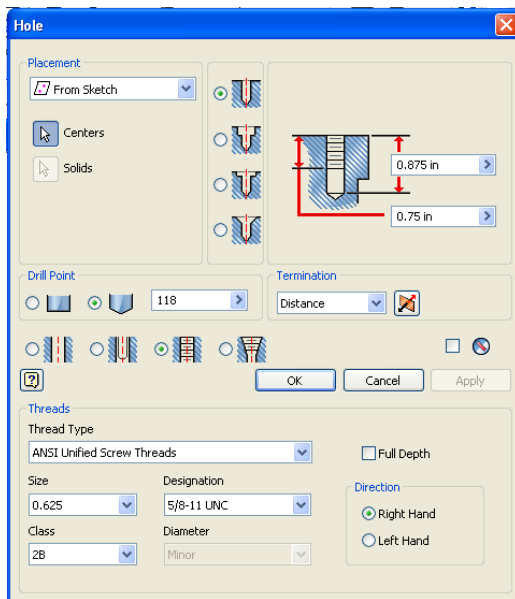

Figure 14: Specifying hole features
5. Create a drilled & tapped Hole Feature on the point created above. See Figure 14.